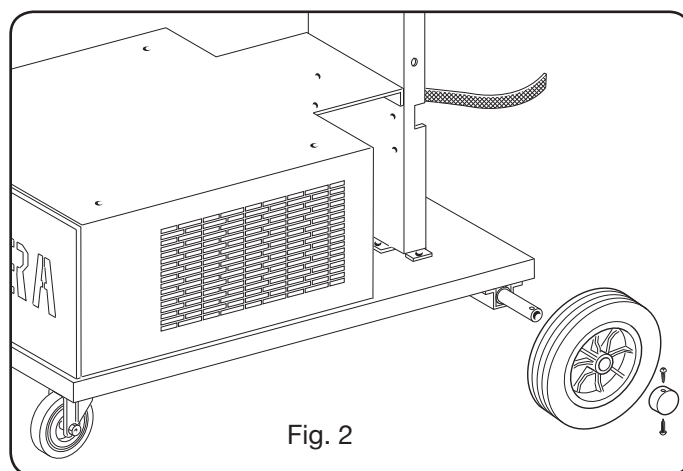

Fig. 2
- All power sources must be fitted with axle and then rear wheels (fig. 2) .